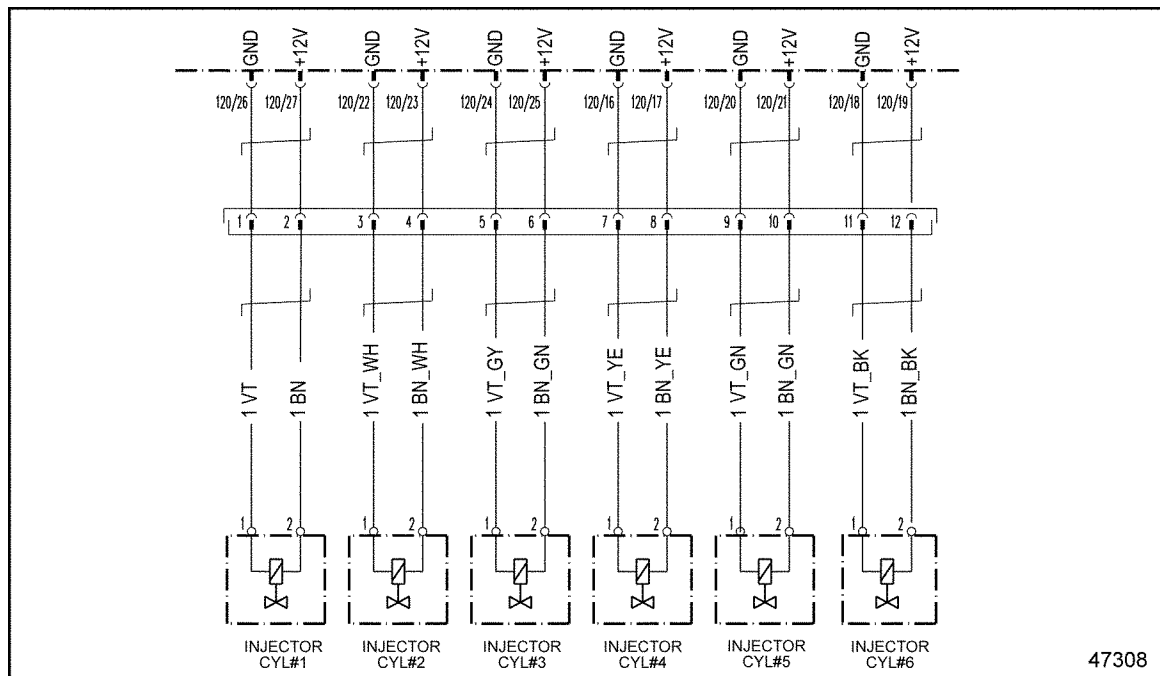

Figure 28-2 MBE 900 Injectors
3. Measure the resistance between pin 9 of injector #5 and ground on the valve cover side of the Injector Harness 12-pin connector. See Figure 28-2.